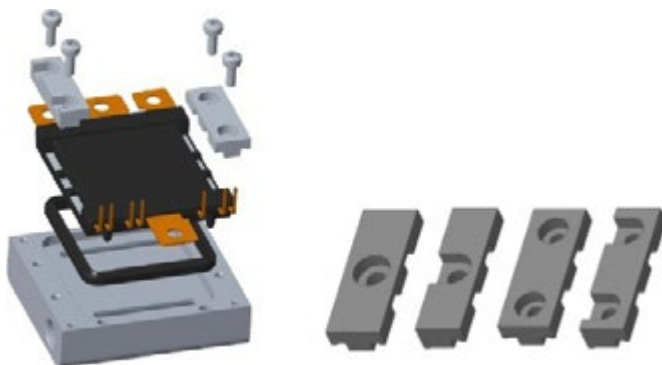

Figure 2: DCM™ module incl. ShowerPower®3D baseplate screwed to bathtub.
**Alexander Streibel:** The modules can be mounted to the cooler by using clamping brackets screwed directly to the cooler. The brackets have direct contact to the available area at the top of the baseplate, shown in Figure 2. There are different concepts available that can apply sufficient pressure for the sealing gasket located close to the borders of each half-bridge.